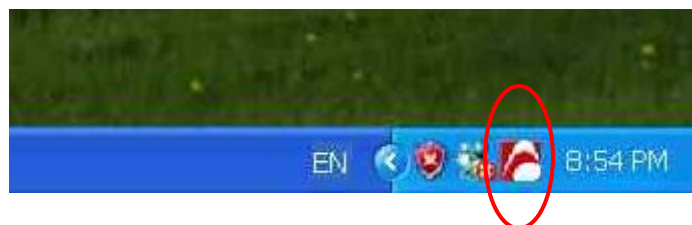

Fig. 2-6 MAYA44 v3 Setting Icon.
- Double-Click the icon indicated in Fig. 2-6 for detail Sound Card Settings.